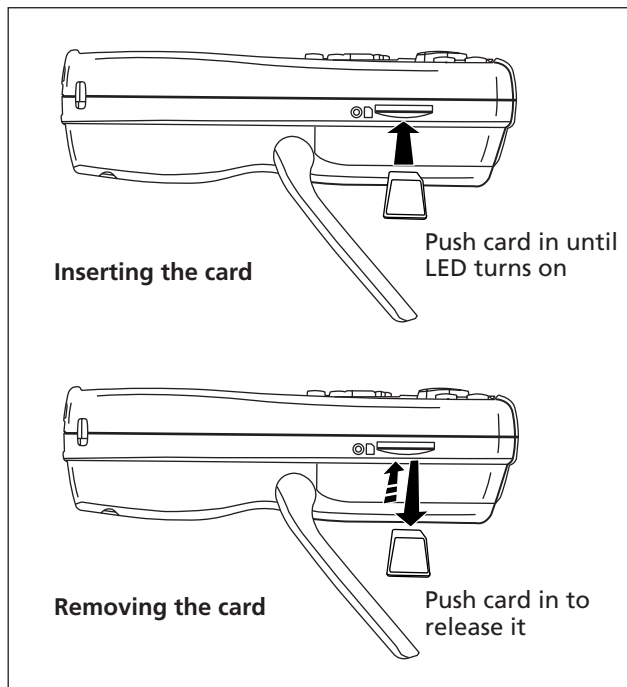

Figure 1-11. Inserting and Removing the Memory Card
- 1 Insert an MMC or SD memory card into the tester, as shown in Figure 1-11.